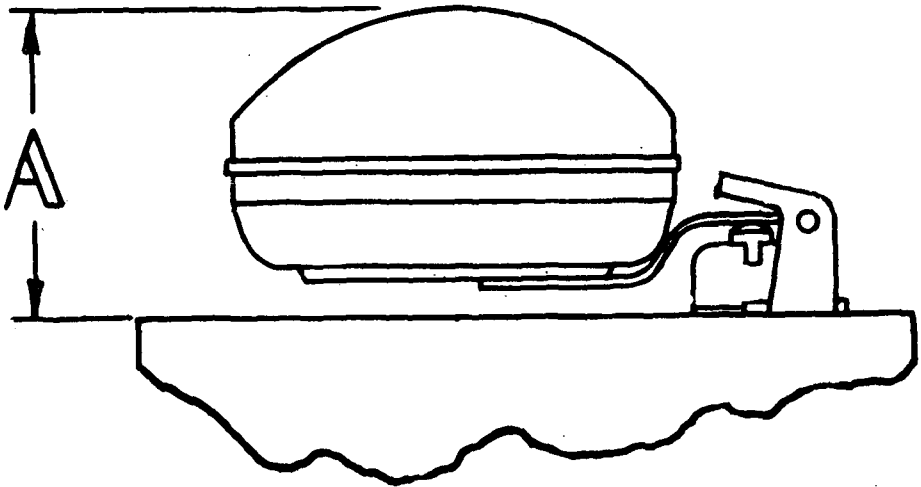

Fig. 15
12. Install the air shutter bracket in correct position (see item 16 of disassembly procedure) and tighten the clamp screw securely.
20. Hold the intake assembly upside down and observe the position of float in relation to the casting. To obtain correct fuel level (with normal fuel pump pressure) the "A" dimension as shown in Figure 15 should be 1-1/16", plus or minus 3/64".